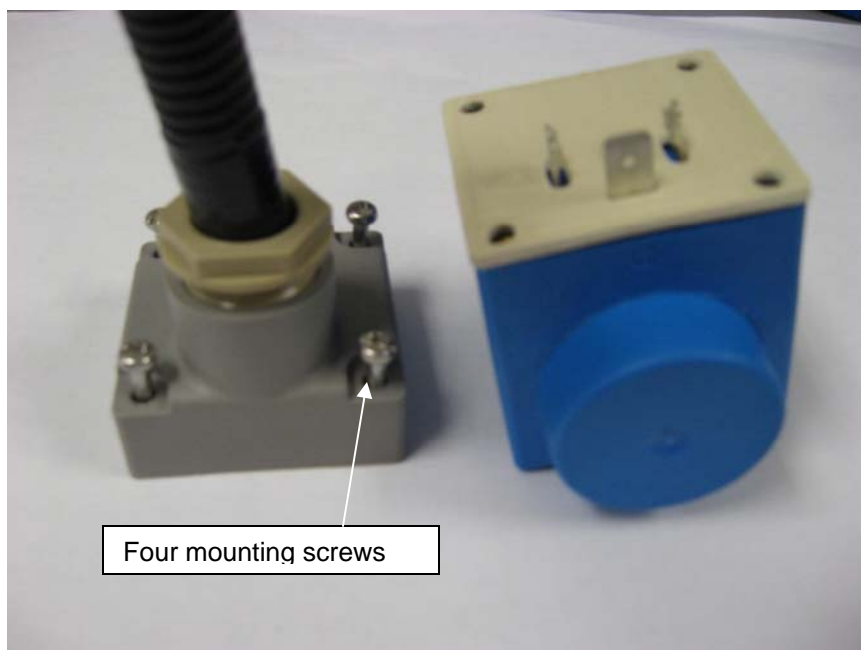

Figure 7
2. Loosen the four screws and remove the top portion of the assembly. (see figure 7)